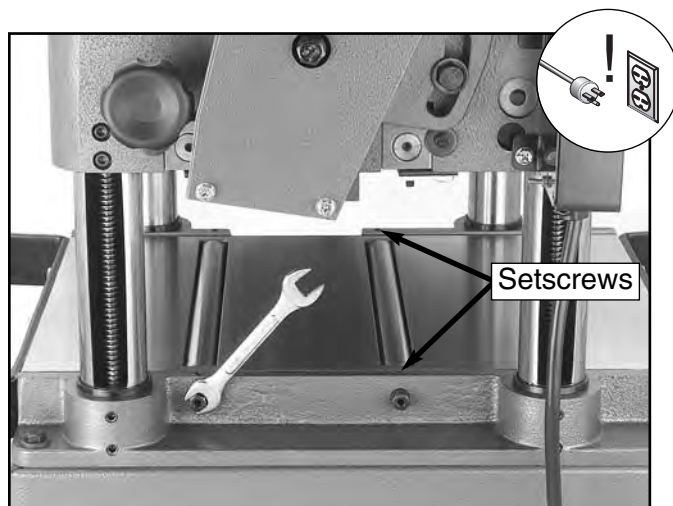

Figure 12. Bed roller.
5. Loosen the bed roller setscrews and turn the eccentric shaft so the table rollers are beneath the table surface. See **Figure 12**.